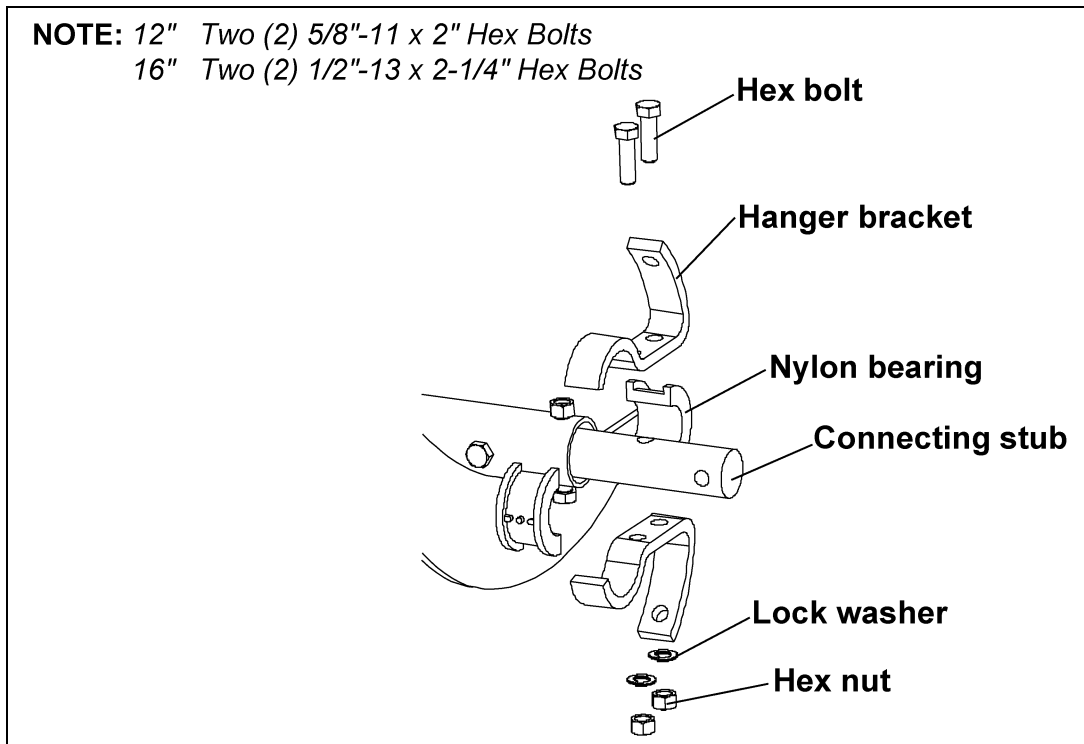

Figure 5M
- A. Bolt the nylon bearings and hanger brackets to the connecting stubs using hex bolts, lock washers and hex nuts as shown in See Figure 5M.